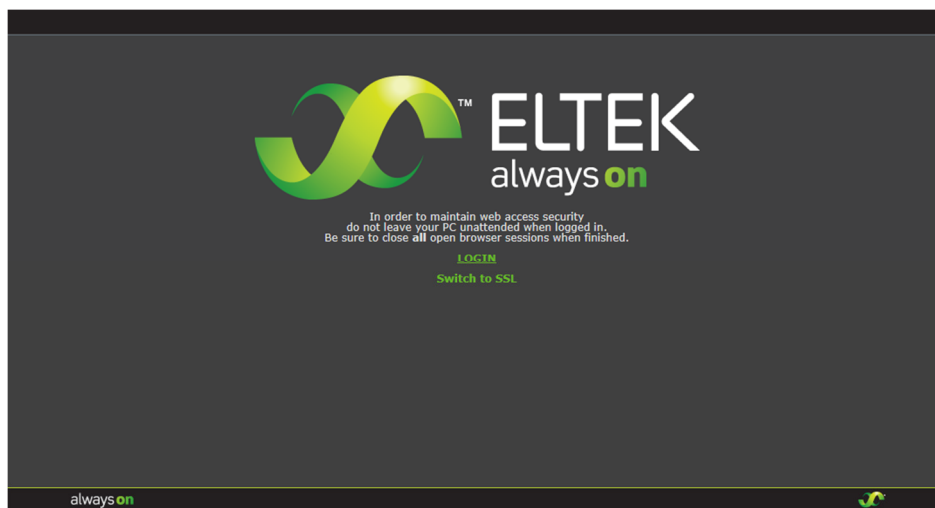

Figure 4 - Web Interface Login Page
6. Does the Login page appear in the web browser? See Figure 4.
19. Select the controller and click the "Web Interface" button. The login page appears. See Figure 4.